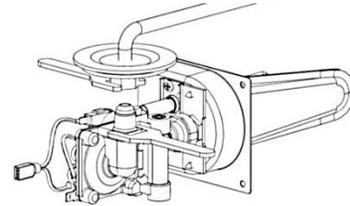

Figure 7
2. Be sure all male pipe threads, other than flare fittings, are treated with a sealing compound resistant to the action of propane (LP) gas. DO NOT put sealing compound on flare fittings.
3. Use two wrenches to hold nut when tightening gas lines. DO NOT twist valve assembly. See Figure 7.